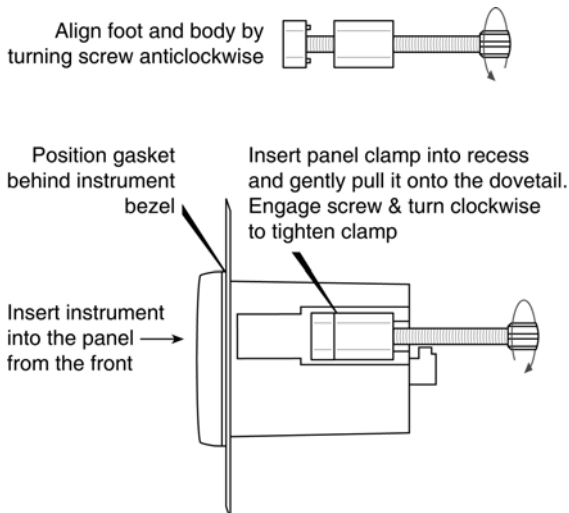

Fig 5 Fitting panel mounting clamps
- d. Place a clamp in the recess on each side of the indicator, pulling gently to slide it onto the dovetail as shown in Fig 5. Push the knurled screw slightly forward to engage the thread and tighten by turning clockwise until it is just finger tight. When both clamps are fitted ensure that the gasket behind the front panel bezel is correctly positioned before fully tightening the clamps to secure the instrument. The maximum recommended clamp tightening torque is 22cNm (1.95 lbf in) which is approximately equivalent to finger-tight plus one half turn. **Do not over tighten.**